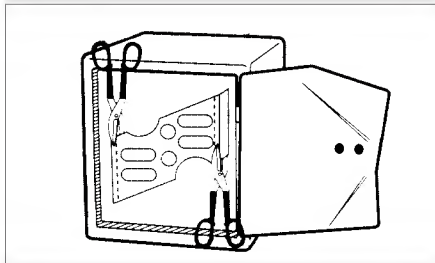

Figure 2.
4. With tin snips or a metal saw, cut each side of this metal plate (Figure 2). Remove it.